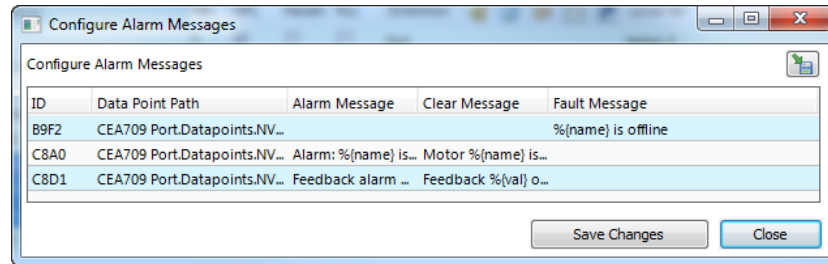

Figure 94: Spreadsheet for multi-edit of alarm messages.
- **Configure Alarm Messages:** Use this option from the context menu for editing alarm messages (alarm, clear, fault) for all data points in the selection. A dialog with a spreadsheet view appears as shown in Figure 94. Edit the messages directly in the